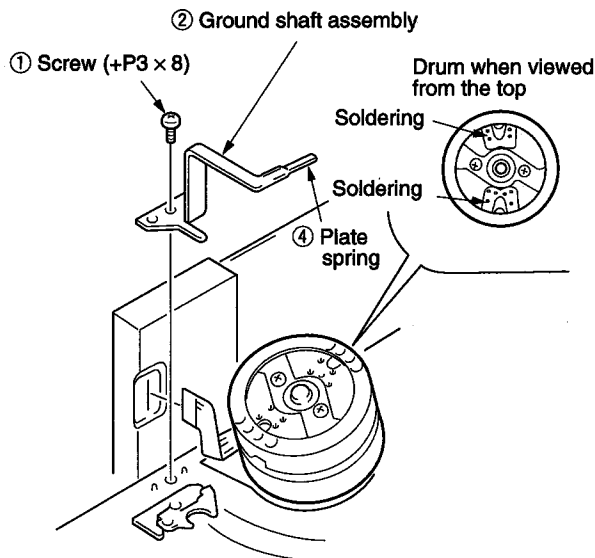

Fig. 4
- 1) Remove screw ① (+P3×8) and remove the ground shaft assembly ②. (Refer to Fig. 4.)